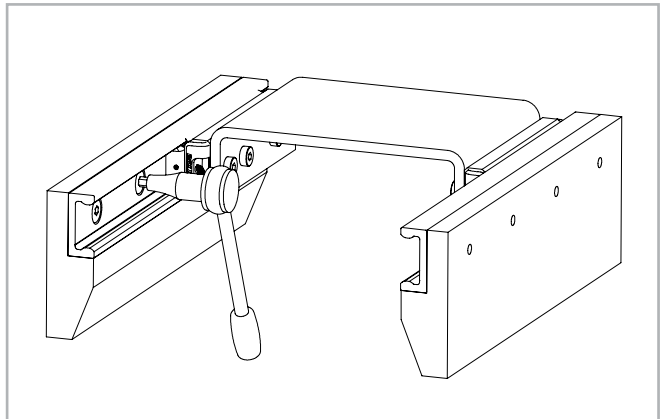

Fig. 76
(2) Install the other bearing rail and only tighten the fixing screws slightly.
(3) Insert the sliders in the rails and install the element to be moved, without tightening its screws.
(4) Insert the element in the center of the rails and tighten it with the correct tightening torque (see pg. CR-35, tab. 28).
(5) Tighten the center rail fixing screws to the specified torque (see fig. 76).
(6) Move the element to one end of the rail and start tightening the rest of the screws in the direction away from the slider.